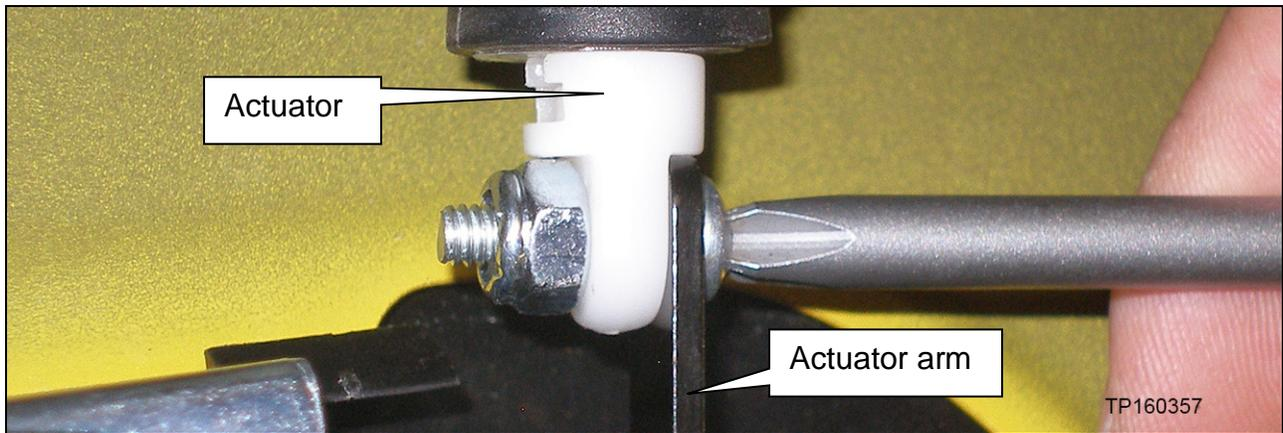

Figure 9
- c. Remove the actuator arm from the actuator and discard (Figure 9).